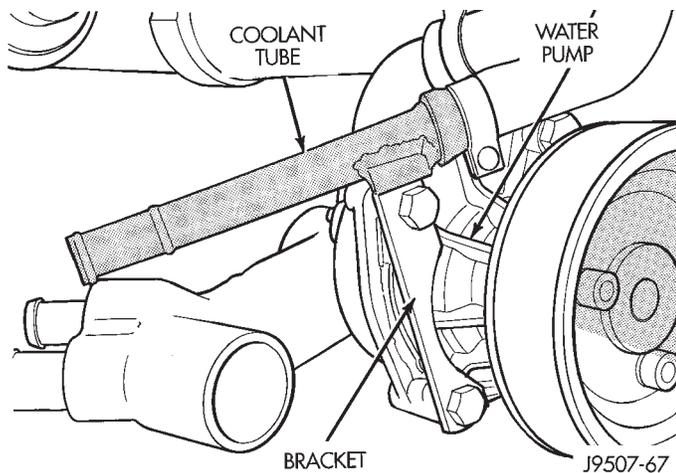

Fig. 25 Coolant Tube at Water Pump
(9) A metal coolant tube (used to connect rubber coolant hoses), and its mounting bracket are attached to the front of the water pump (Fig. 25). A rubber hose connects this tube to the engine. Disconnect the hose clamp and rubber hose at the back of the thermostat. Position the hose to the side.